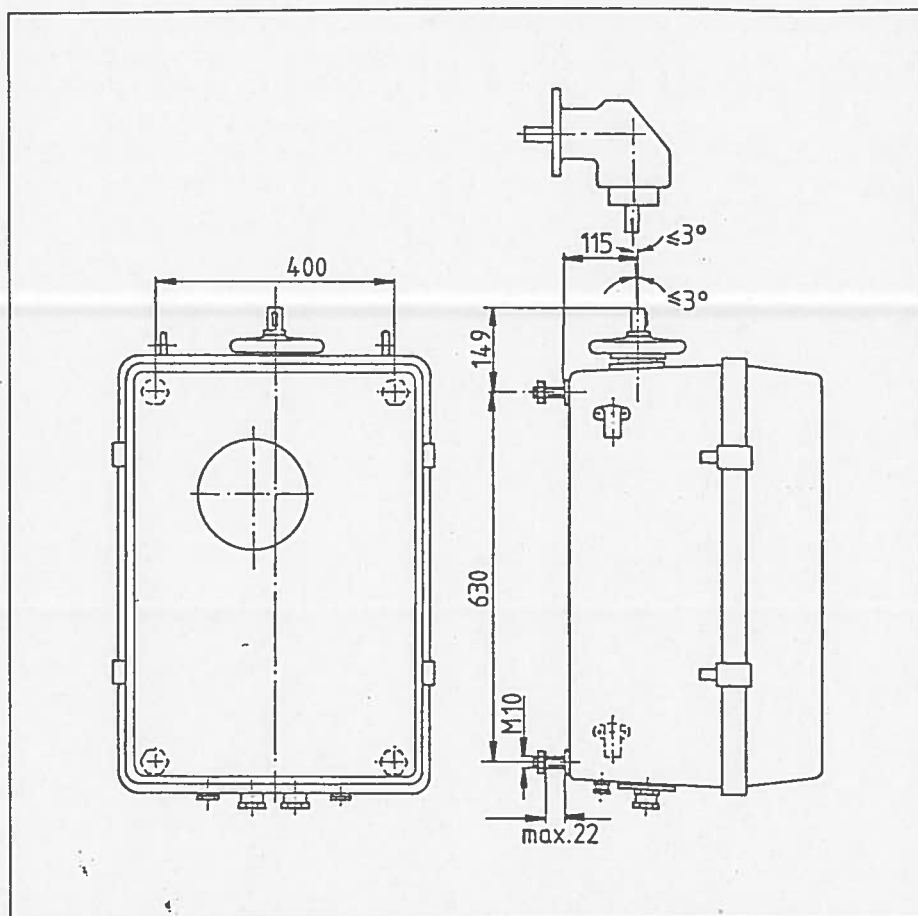

Figure 10 Mounting dimensions
The motor drive mechanism is fastened in position with the four threaded bolts M10×50 (metric thread), four hexagonal nuts and four gaskets (see **Figure 10** for fitting dimensions). The console thickness must not exceed 22 mm. Care must be taken to ensure that the power take-off shaft (203) is aligned with the shaft to the bevel gear. Permissible alignment deviation (including installation tolerances) is 3° maximum (**Figure 10**), in the case of the cardan shaft 20° maximum.